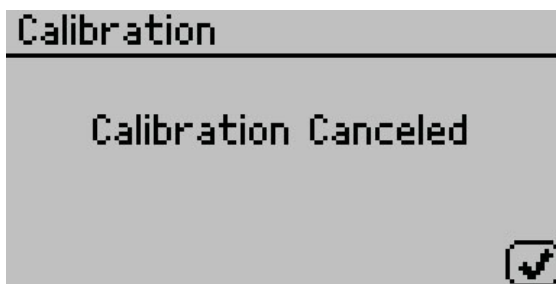

Figure 58 Calibration canceled confirmation
17. If the calibration is canceled at any point, a Calibration Canceled confirmation will appear. Select **OK** to continue (Figure 58).